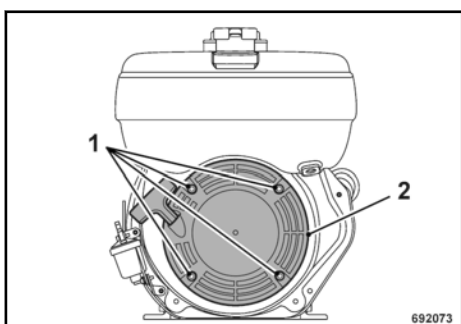

Fig. 48
Unscrew the fastening screws (1) ➤ Fig. 48 and pull the recoil starter (2) from the engine housing.